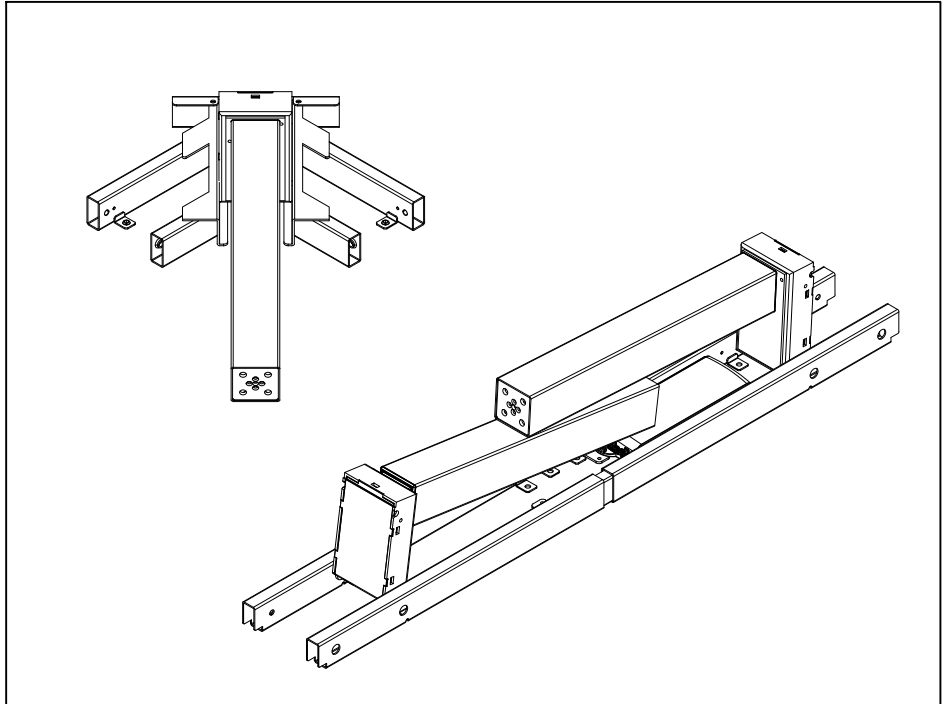

FIGURE 1
1. Take the main frame out of the box and place it on a clean, solid surface or floor (Figure 1).